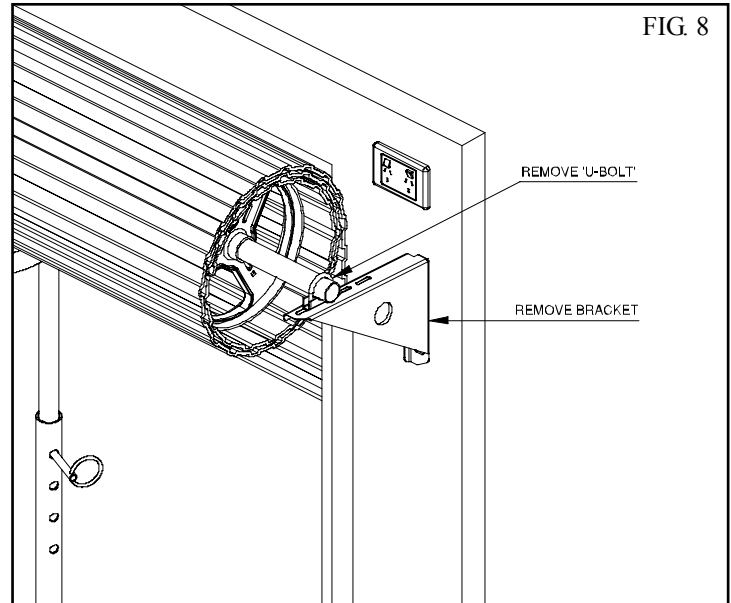
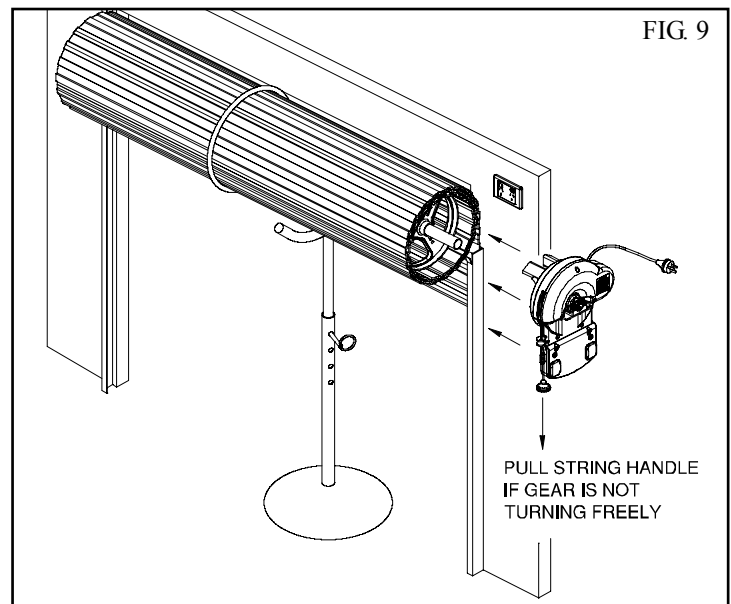
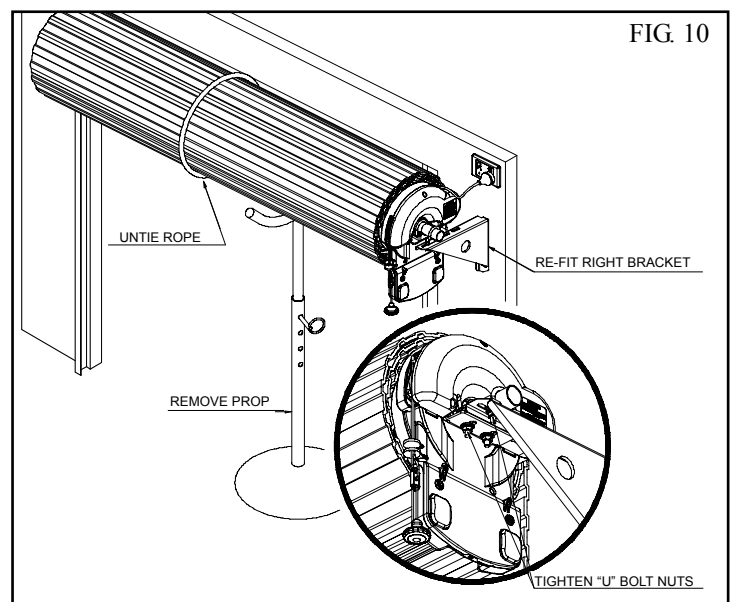

FIG. 8
FIG. 9
FIG. 10
(Fig. 8, Fig. 9, and Fig. 10).
9. Straighten the drive assembly and position as per Fig. 10. Tighten the two locking bolts firmly to secure the Drive Unit.